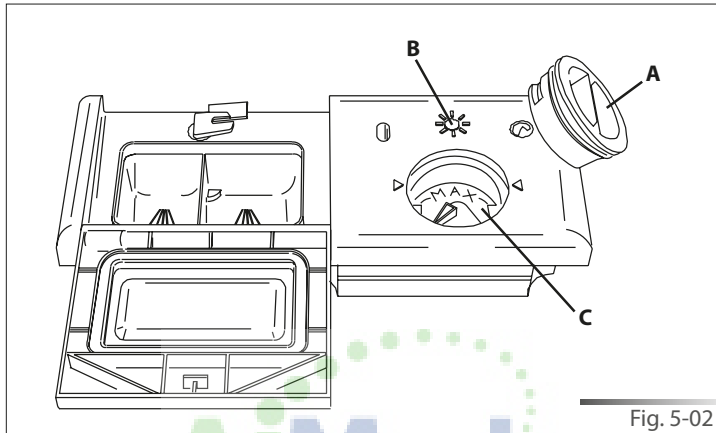

Fig. 5-02
- Rotate the container cover (ref. A fig. 5-02) anticlockwise by $\frac{1}{4}$ of a turn and remove it.
- Add the rinse aid until the container is full (approximately 140 ml). The optical level indicator (ref. B fig. 5-02), on the side of the cap should be completely obscured. Refill the rinse aid when the optical level indicator becomes clear again, or when the rinse aid warning light illuminates (see "Description of controls" manual).
- Replace the cover (ref. A fig. 5-02) by turning it in a clockwise direction until it is fully closed.
The rinse-aid dispenser can be set to one of 6 different levels. The dishwasher is factory set for medium water hardness (selector set to "3"). To change the setting, turn the dispenser selector (ref. c fig. 5-02) to the desired position: the amount of rinse-aid dispensed is proportional to the position of this selector. Make sure that the minimum amount of rinse-aid (selector turned to "1") is approximately 1 ml and the maximum amount (selector turned to "6") is approximately 6 ml.
- To adjust the rinse aid setting, rotate the dispenser cover (ref. A fig. 5-02) through a quarter turn in an anticlockwise direction and remove it.